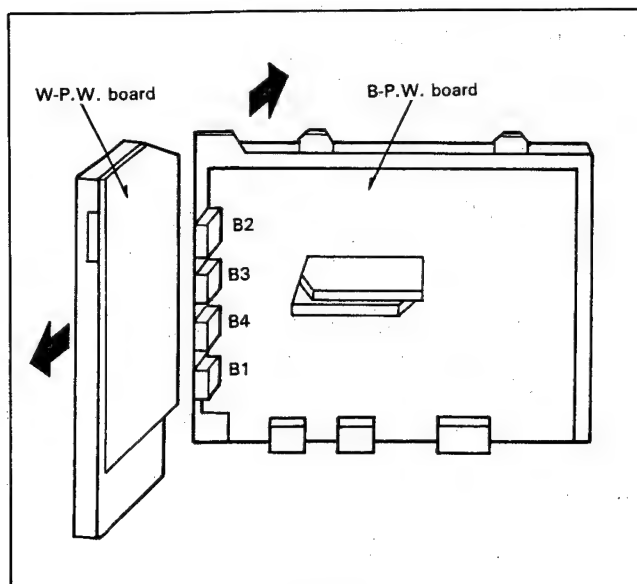

Fig. 6
2. Slide B and W-P.W. boards as shown in Fig. 6.